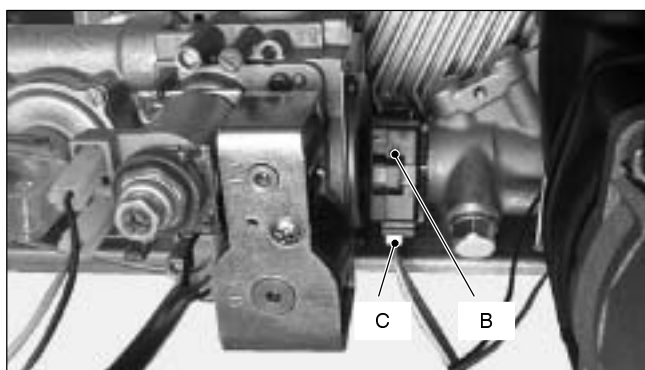

Fig. 57
- 2 Switch on the boiler and open a d.h.w. tap. The lamp B (Fig. 57) placed on the sensor body is switched on when the flow rate reaches about 2,5 litres/min'.
- 2 Disconnect the connector C (Fig. 57) and remove the sensor by pulling it towards the front of the boiler (the sensor is held in place by means of a spring).